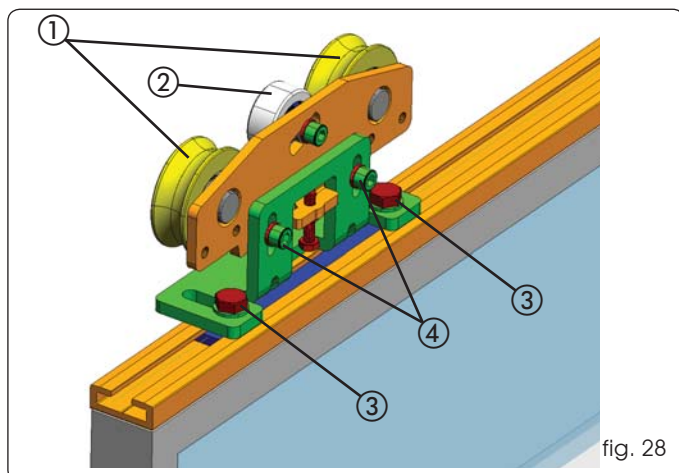

fig. 28
The carriages have two sliding wheels (Fig.28 ref. ①) and a counter-thrust wheel (Fig.28 ref. ②)
Two slots are provided on the base of the carriages. These slots enable leaf depth adjustment (Fig.28 ref. ③)
- Slightly loosen the two screws M6 - fig.28 ref.④.